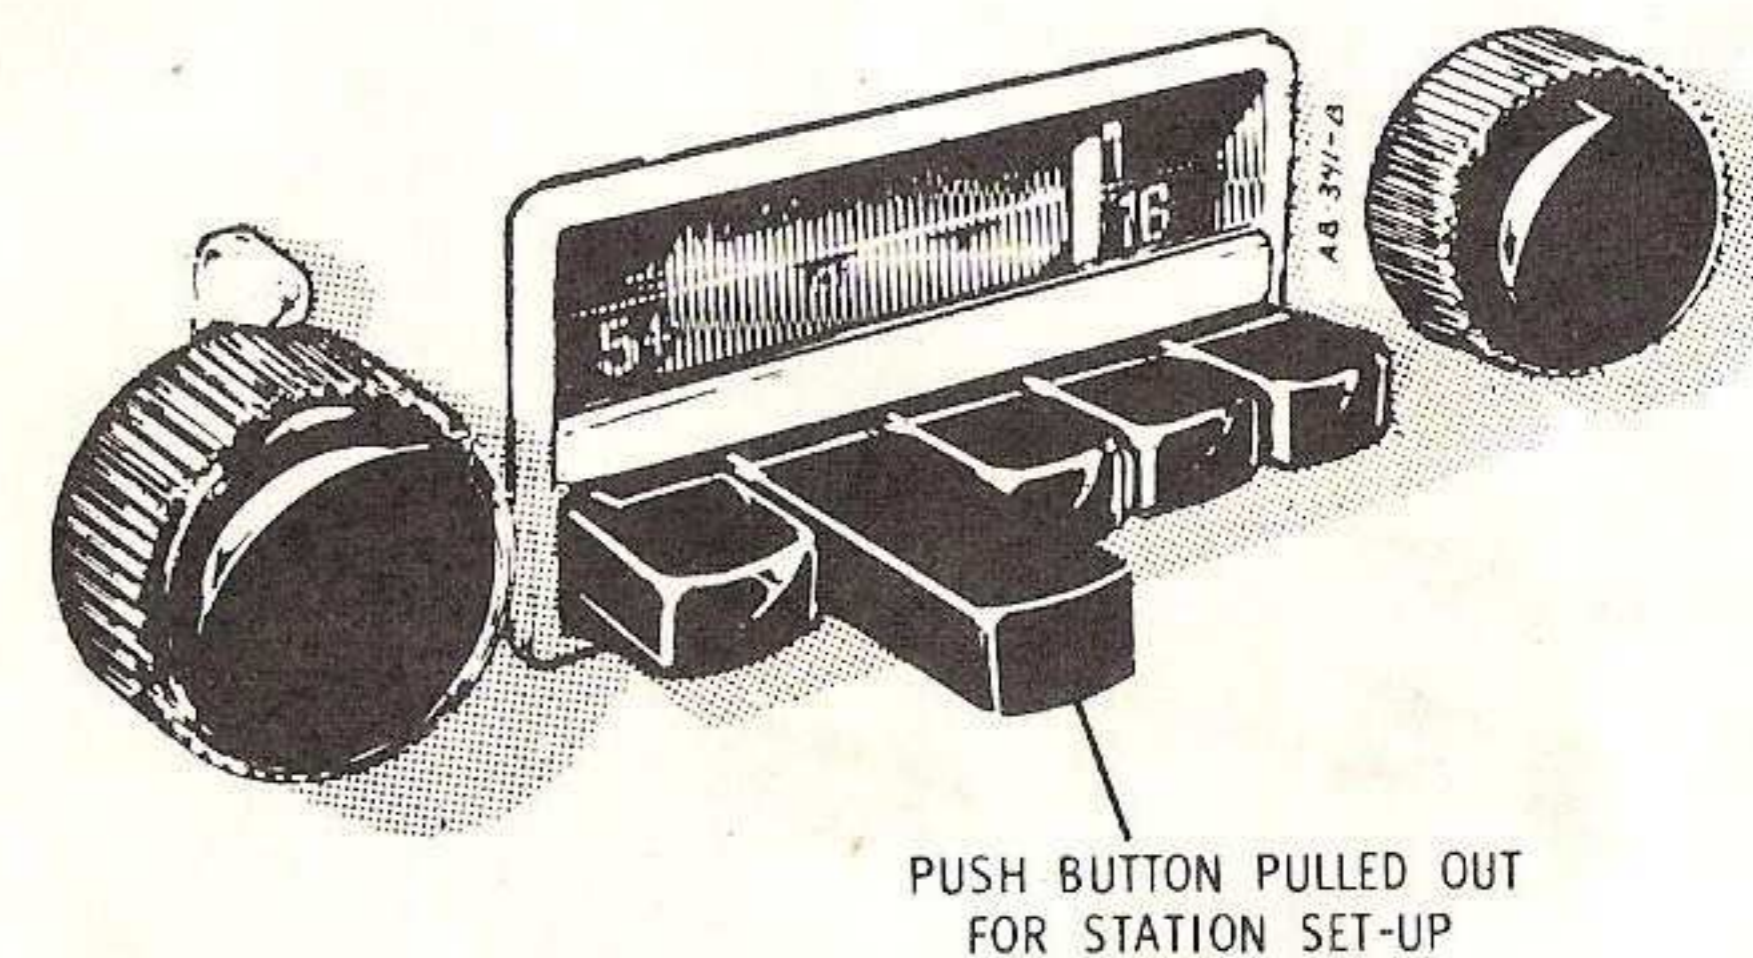

FIG. 2
2. Unlock push-buttons by pulling them out. (See Fig. 2)